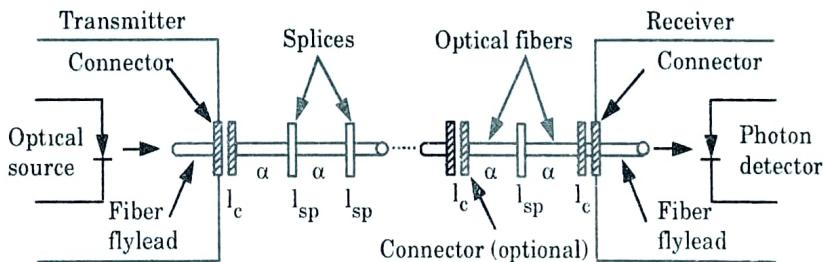

Fig. 5.11.1. Optical power loss model for a point-to-point link.
- An optical power loss model for a point-to-point link is shown in Fig. 5.11.1.